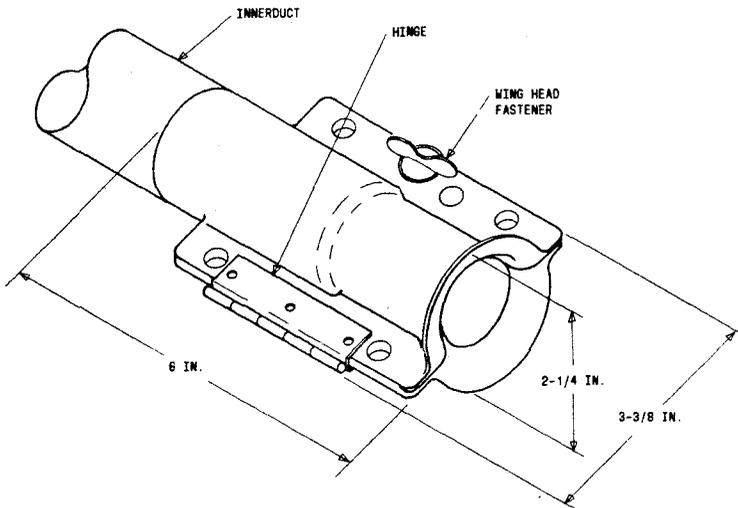

Fig. 1—D Lightguide Cable Feeder (AT-8990)
2.01 The D lightguide cable feeder (Fig. 1) consists of a cylindrical form with two flanges. The cylindrical form has a bell mouth at one end and, at the other end, a tapered sleeve which slips over the innerduct. The flanges provide a means to join the two halves of the cable feeder. The two flanges contain four holes which permit the feeder to be securely tied in position.